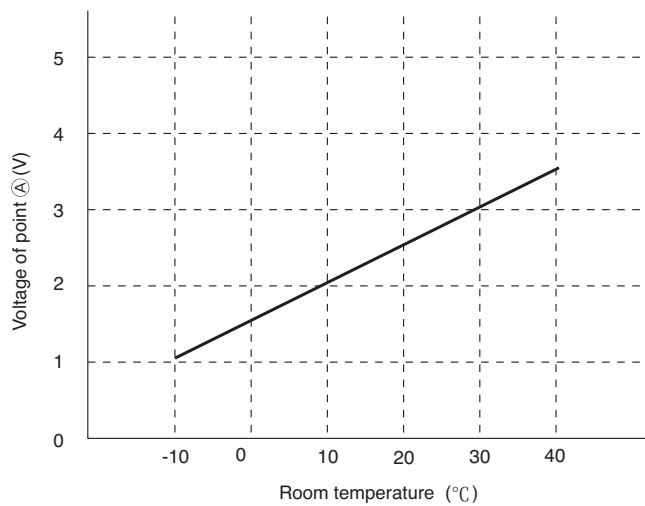

Fig. 4-2
- (1) Preheating
- (2) Low-temperature defrosts at cooling・dehumidification operation time.
- (3) Not working of reversing valve or detection of opening of heat exchange thermistor is controlled.
According to heat exchange temperature, the voltage of point (A) becomes as it is shown in Fig. 4-2.